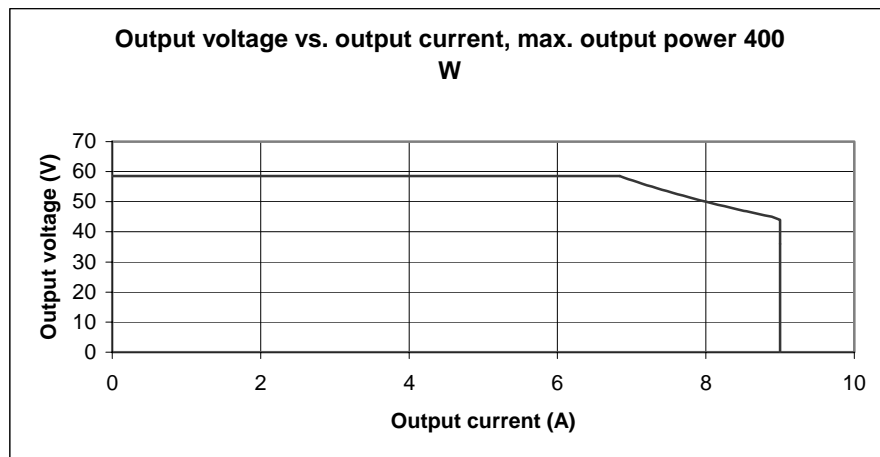

Figure 1
- 2.1.4 **Output Voltage - Output Current Characteristics:** Shown in Figure 1.